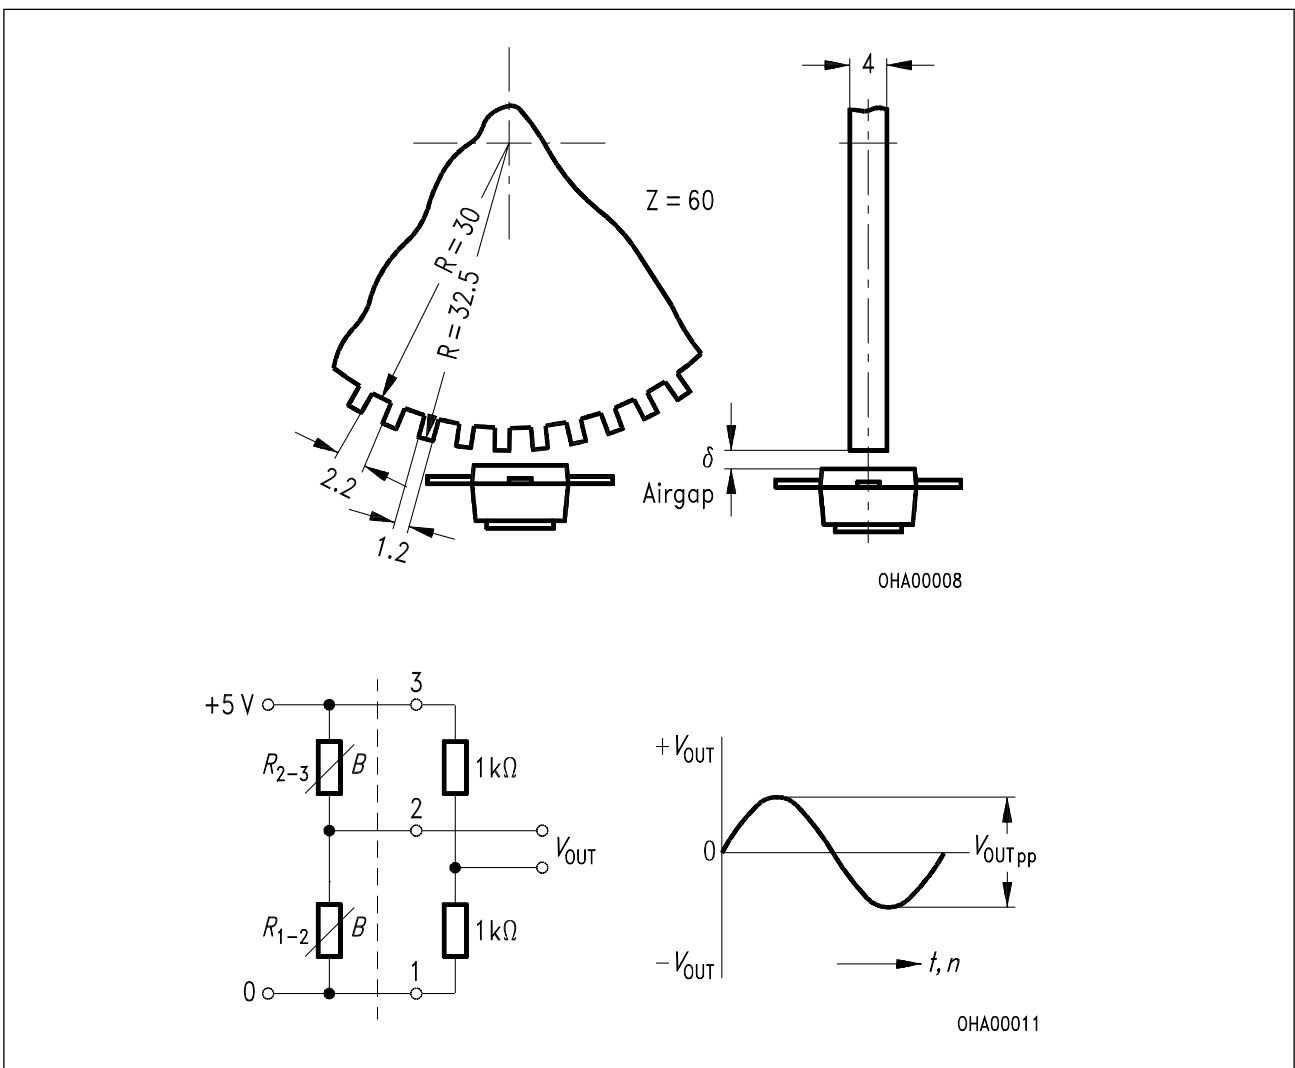

Fig. 1
5) Corresponding to measuring circuit in **Fig. 2** and arrangement as shown in **Fig. 1**
For digital revolution counting, the sensor should be actuated by a magnetically soft iron toothed wheel. The tooth spacing should correspond to about twice the magneto resistor intercenter spacing i.e. $2 \times 1.6 \text{ mm}$ (see **Fig. 1**).